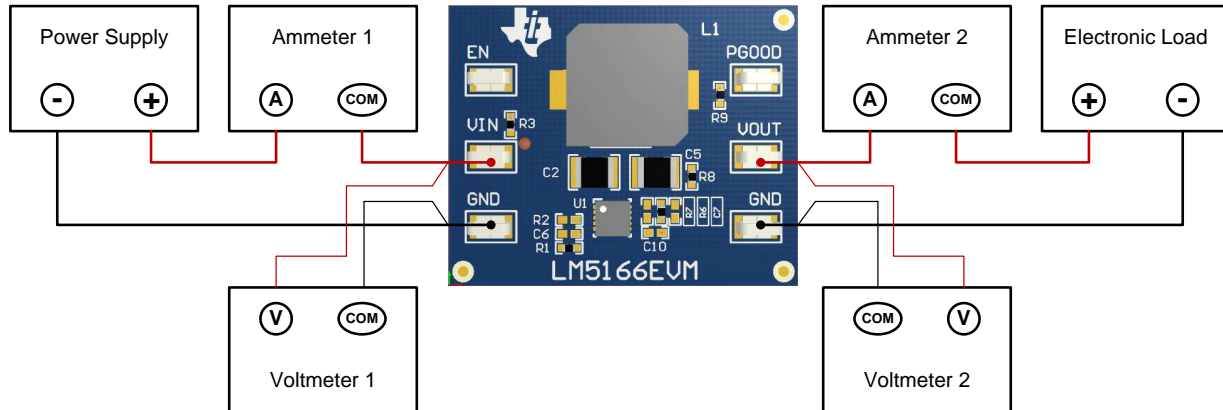

Figure 3. EVM Test Setup
Referencing the EVM connections described in Table 2, Figure 3 shows the recommended test setup to evaluate the LM5166EVM. Working at an ESD workstation, make sure that any wrist straps, boot straps or mats are connected referencing the user to earth ground before power is applied to the EVM.
- Prior to connecting the DC input source, it is advisable to limit the source current to 1 A maximum. Ensure the input source is initially set to 0 V and connected to the VIN and GND connection points as shown in Figure 3. An additional high-ESR, low leakage, input bulk capacitor (e.g. 47- μ F, 100-V Electrolytic capacitor) is recommended if long input lines are used.